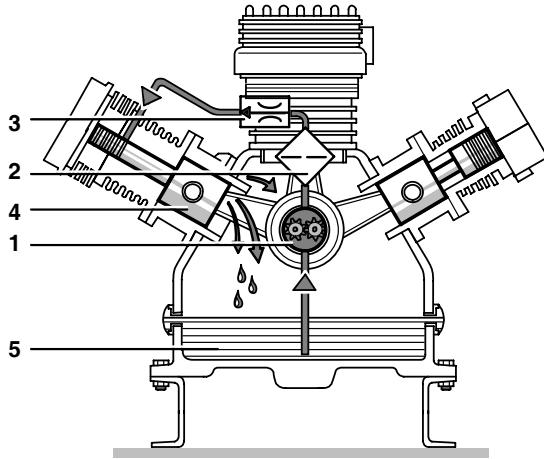

Abb. 36 Lube oil circuit
The oil pump (1, Abb. 36) is coupled to and driven by the crankshaft. It pumps oil from the oil sump (5) through the oil fine filter (2) and a minimum pressure valve (3) to the 3rd stage cylinder. The oil is then distributed by the guide piston of the 3rd stage (4) and lubricates all moving parts of the compressor block.